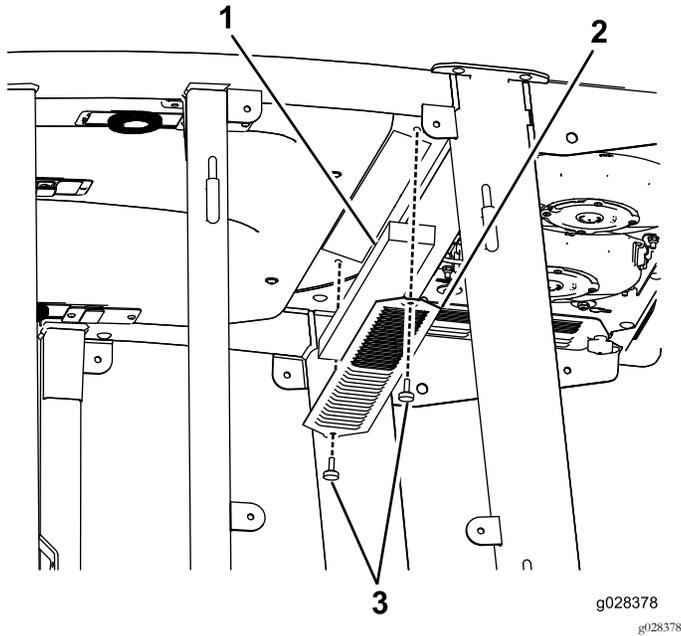
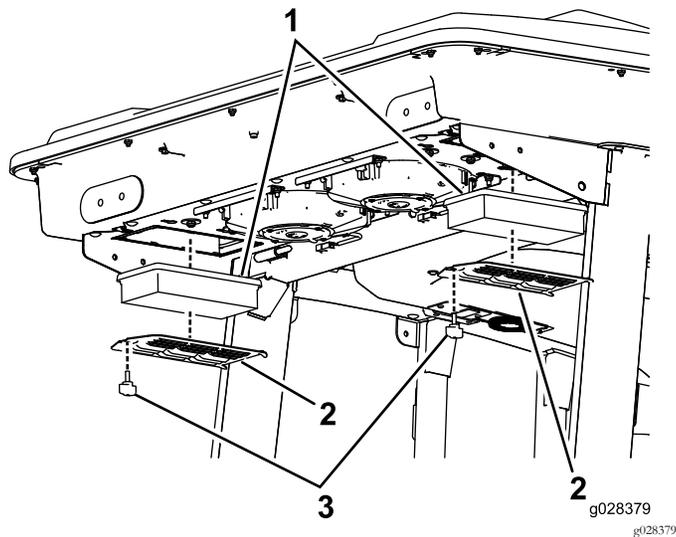
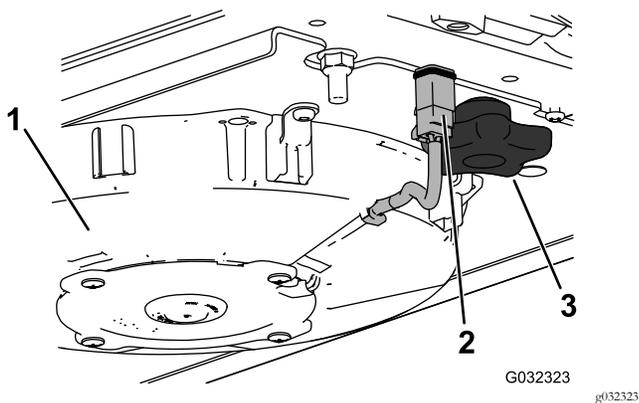
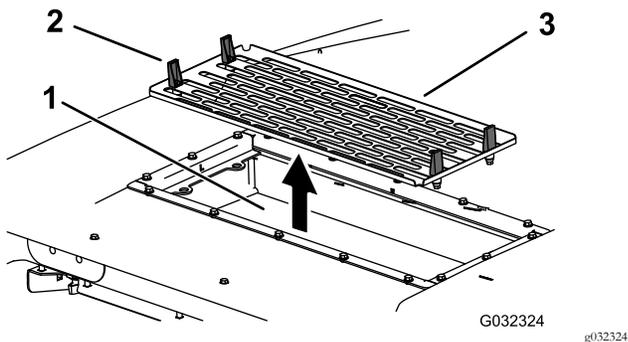

Figure 91
Figure 92
Figure 94
Figure 95
1. Remove the screws and grates from both the in-cab and rear cab air filters (Figure 91 and Figure 92).
- 5. Remove the air filters (see Figure 92).
- 7. Install the air filters, screen, and fan assembly (Figure 92, Figure 94, and Figure 95).
- 8. Connect the wire for each fan (Figure 94).